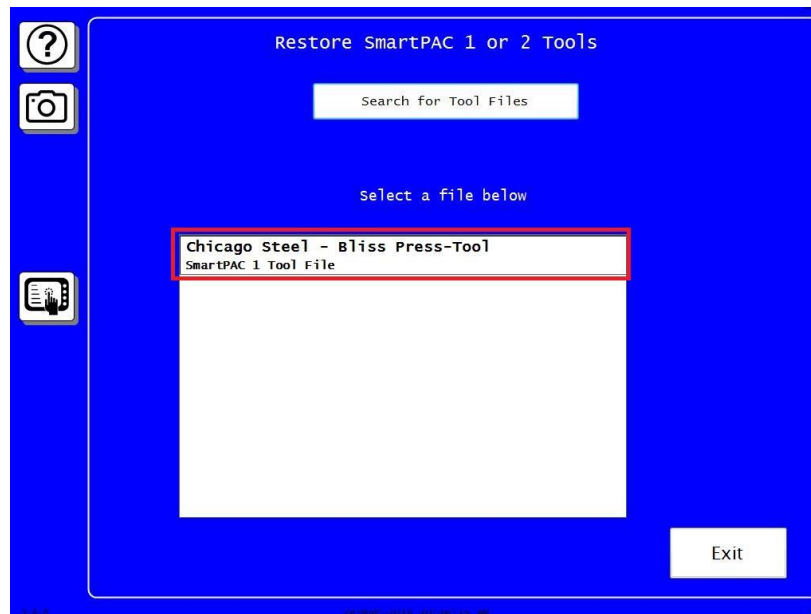

Figure 8 – Select a file below button
9. Press the File name button (Figure 8 below)